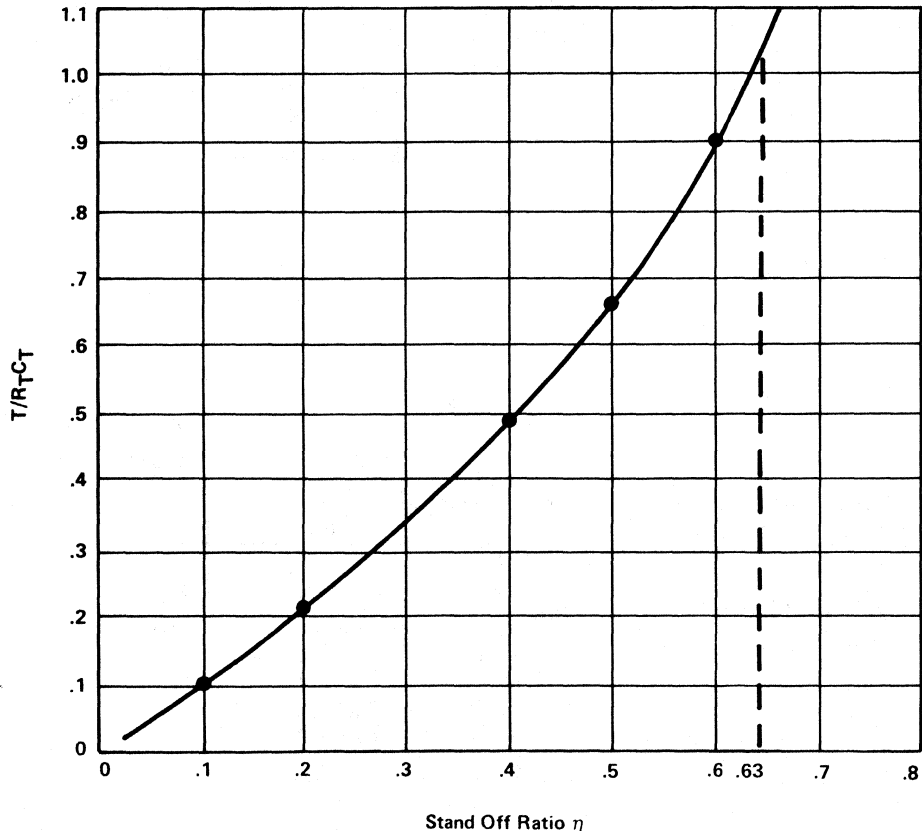

Fig. 9
Step 2 From Fig. 9 with T given as 0.001 sec and η of 0.63. $R_t C_T = 0.001$, $T/R_T C_T = 1$ @ $\eta = 0.63$.